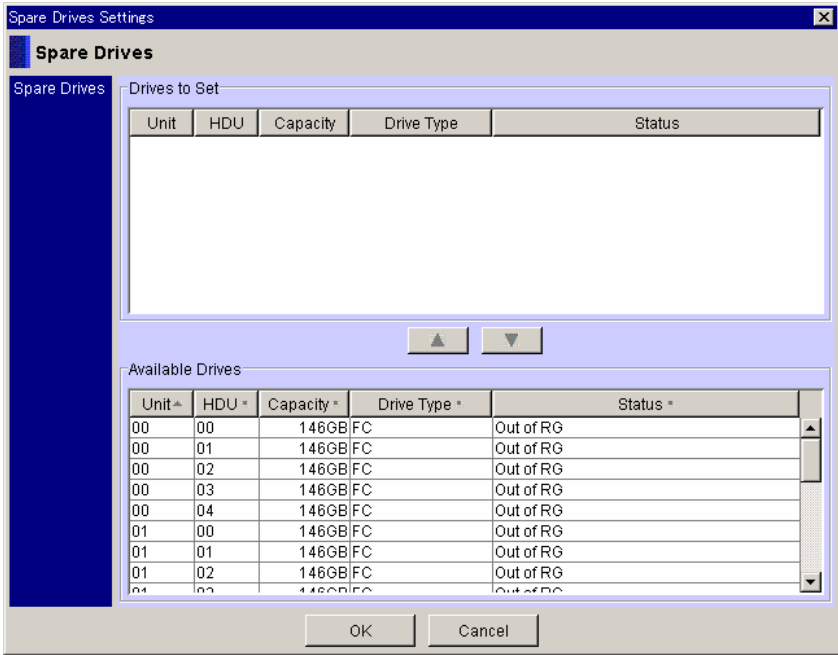

Figure 4.19 Spare Drives Settings Window
2. From the **Tree View**, click the **Spare Drives** icon, and then click **Set** on the lower right of the window to display the **Spare Drives Settings** window (see Figure 4.19).